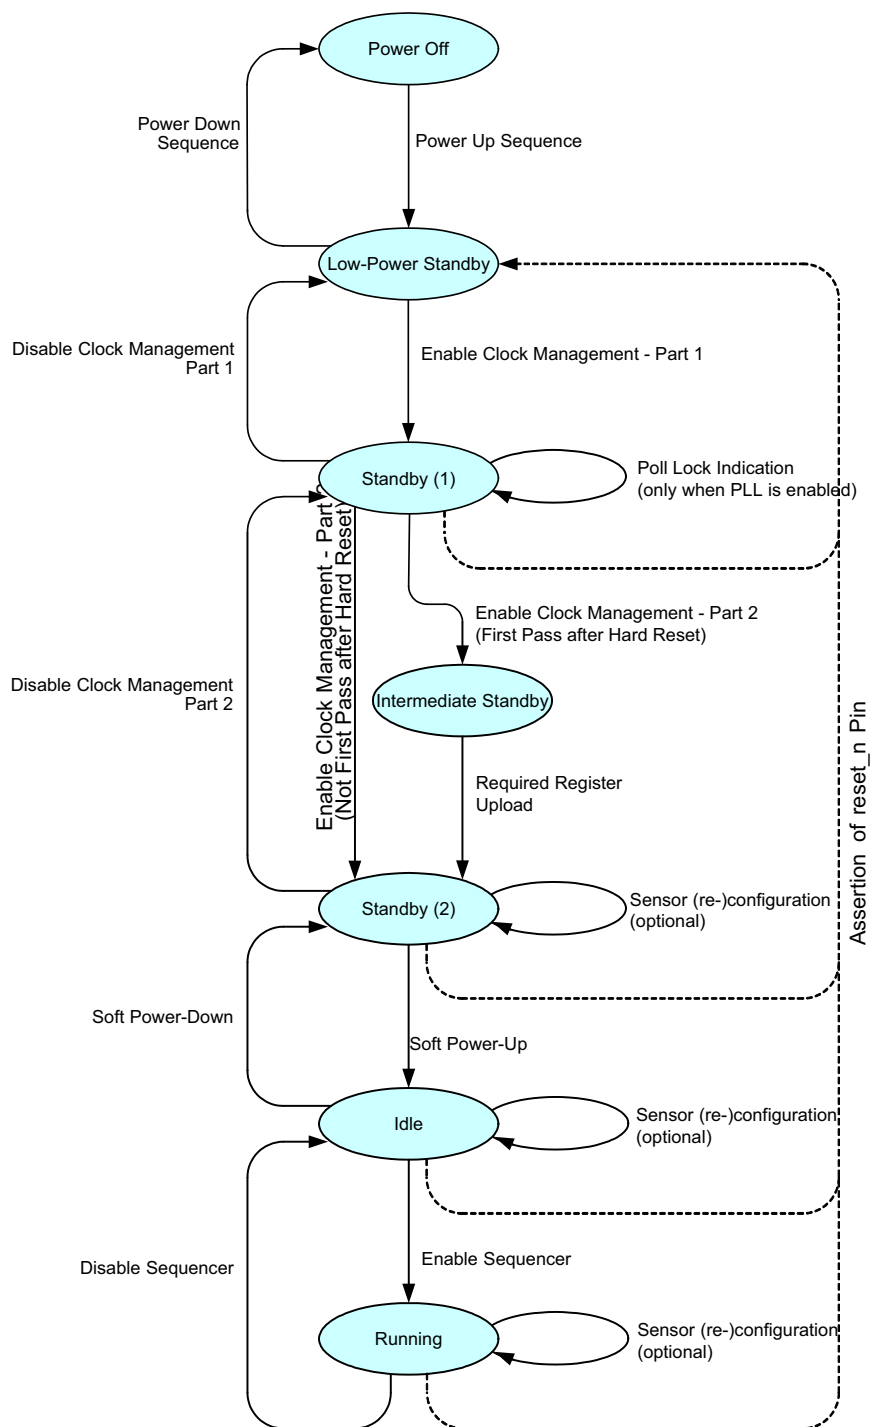

Figure 16. Sensor Operation Flowchart
Figure 16 shows the sensor operation flowchart. The sensor has six different 'states'. Every state is indicated with the oval circle. These states are Power off, Low power standby, Standby (1), Standby (2), Idle, Running.
Check the PLL\_lock flag 24[0] by reading the SPI register. When the flag is set, the 'Enable Clock Management– Part 2' action can be continued. When PLL is not used, this step can be bypassed as shown in Figure 16 on page 14.